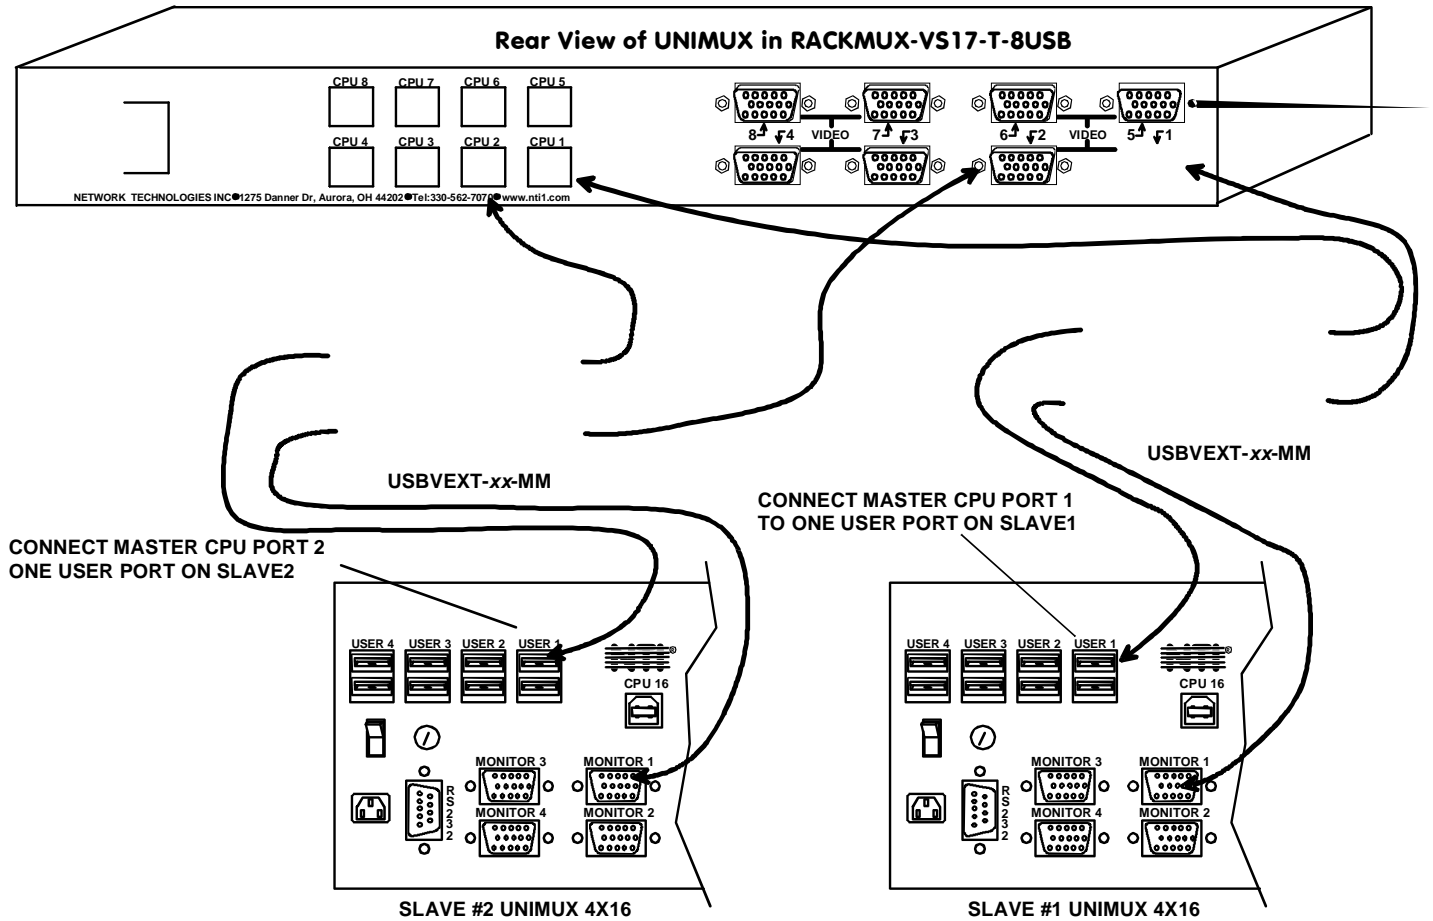

Figure 25- Master to slave cable connections- multi-user switches
- Repeat step b. & c. for each additional slave, keeping in mind that each slave will connect to the next available master's port (i.e. Slave #2 to master's VIDEO 2 & CPU 2, etc.) See Fig. 25 on page 22.